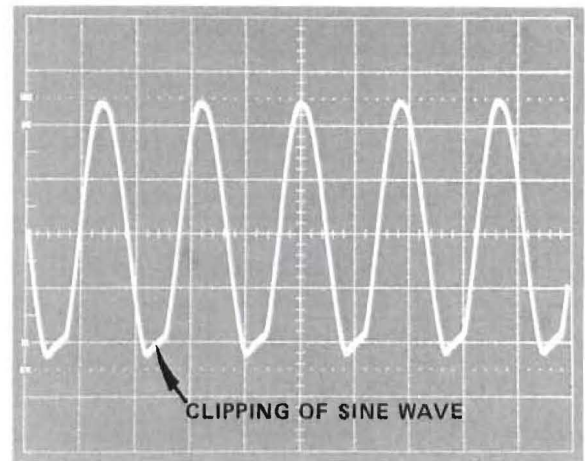

Figure 12 Visible Clipping of sine wave
1. An alternative procedure for demonstrating maximum undistorted power is to simultaneously apply the 1 kHz tone through a plug-in vertical amplifier in the compartment next to the 5L4N and display the time domain sine wave on the scope. Increase the tone level until the sine wave visibly clips, as shown in Figure 12. The power level in dBV or dBm is then read on the spectrum analyzer display.